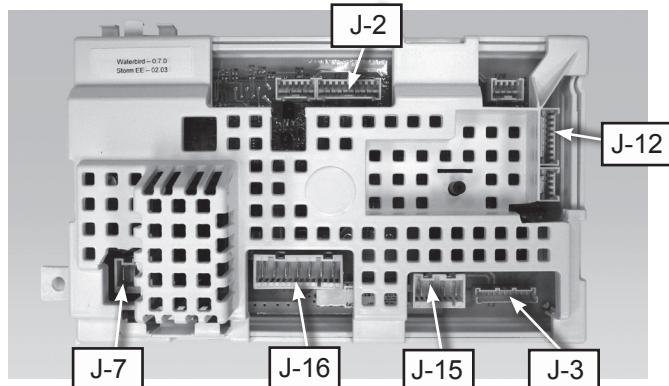

Figure 1
4. Remove harness from control, see figure 1.